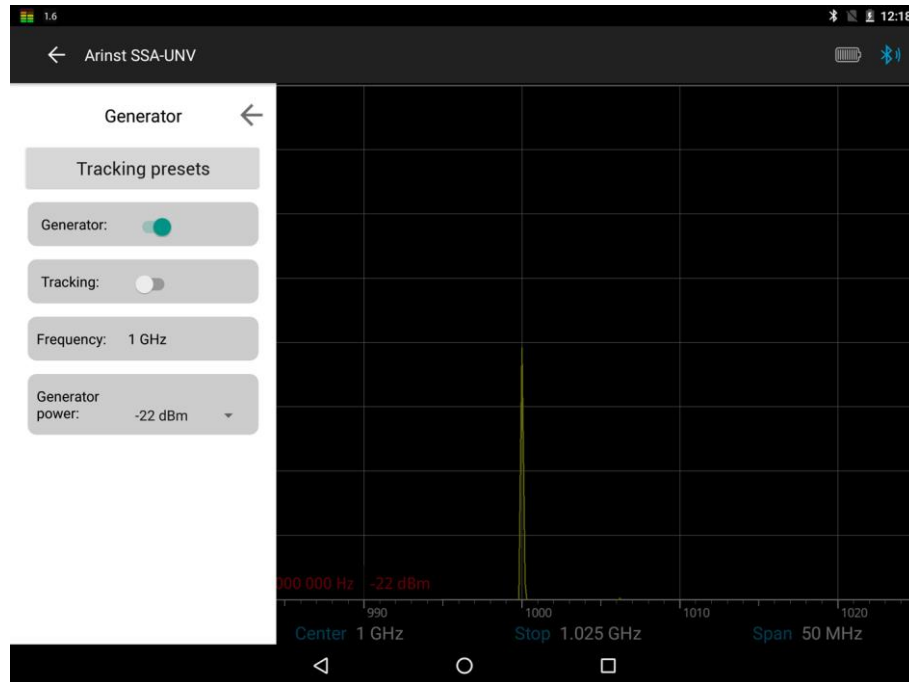

Figure 67 – The setup menu parameters of the internal signal generator
9.1.1. From the main menu of the control program, enter the **Generator** menu, as shown in figure 67.